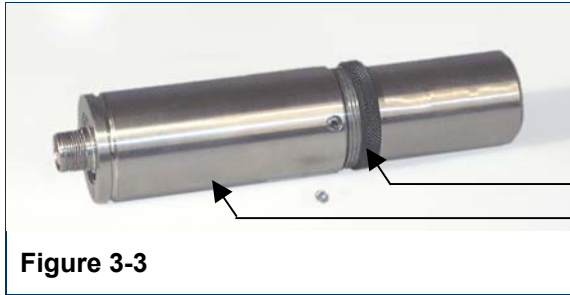

Figure 3-3
2. Unscrew the black securing ring, ref. Figure 3-3.
3. Remove the cylindrical body by pulling upwards towards the sensor receptacle, ref. Figure 3-3.